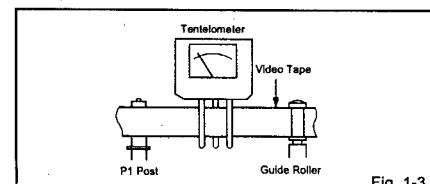

Fig. 1-3
2. Install the tensiometer as shown in Fig. 1-3. Confirm that the meter indicates  $20 \pm 2$ gf in the beginning of playback.